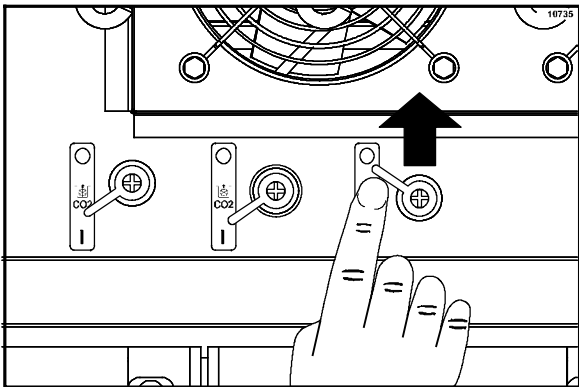

Figure 102
- Close the unused pumps by turning the CO2 valves to the “up/off” position. (See Figure 102.)